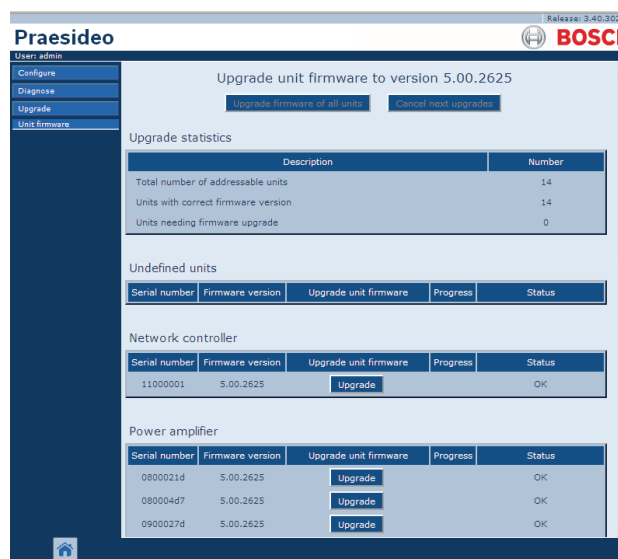

figure 37.9: Upgrade unit firmware page
- 6 Click the *Upgrade unit firmware* button in the navigation bar to open the *Upgrade unit firmware* menu. A screen similar to the one in figure 37.9 appears. The title of the page shows the release number of the firmware that the system expects. The release number of the firmware that is currently running is shown in the Firmware version field.